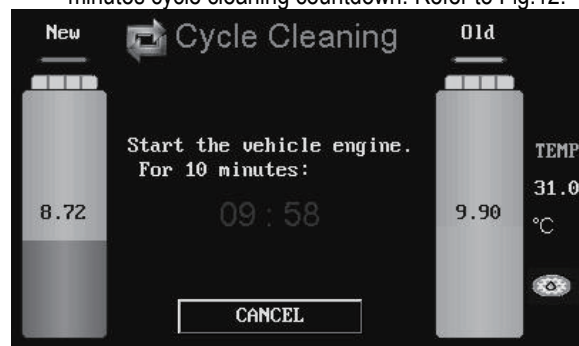

Fig.12
- 4) Print is completed or cancelled, will pop up 10 minutes cycle cleaning countdown. Refer to Fig.12.